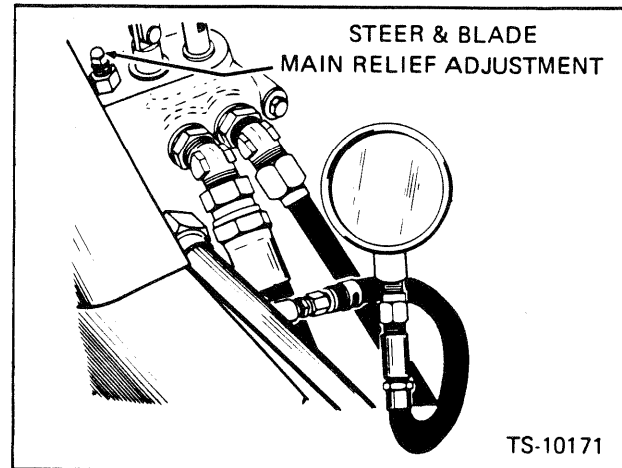

Fig. 11-2 Adjust and Check — Main Relief Valve
3. Attach a hydraulic gauge of at least 3,000 p.s.i. capacity to the fitting on the control valve supply tube located under the floor panel, next to the frame. Fig. 11-2.
5. Put the machine into a full left hand turn and hold the lever in the full turn position. The gauge should register 1,800 p.s.i. at 2,000 rpm. If not, adjust the main relief by removing the acorn nut, loosening the jam nut and adjusting the set screw located on the top of the main control valve assembly until 1,800 p.s.i. registers on the gauge. Fig. 11-2.